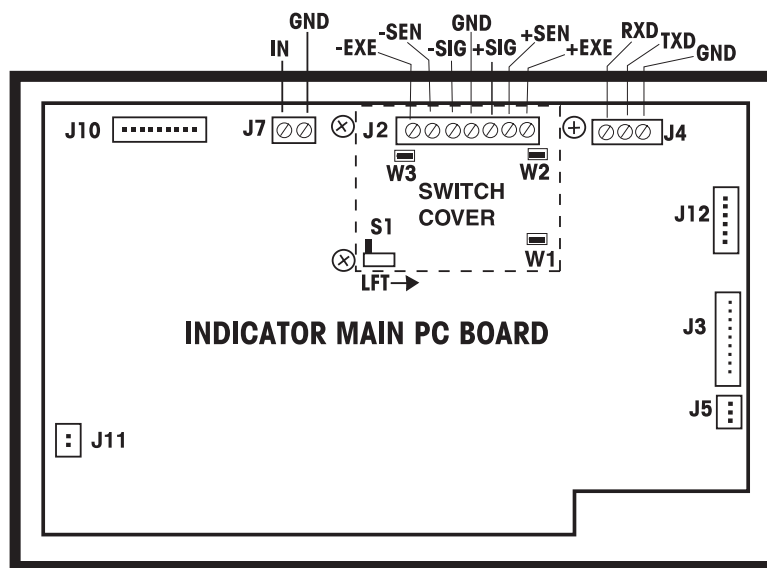

Figure 3-15. Main Printed Circuit Board Connections.
2. See Figure 3-15 Printed Circuit Board Connections and remove the switch cover. Retain the screws and cover.
3. Remove the 3 screws securing the switch cover over Terminal Strip J2. Connect the Simulator to Terminal strip J2. See Figure 3-15. Tighten all terminal screws securely.